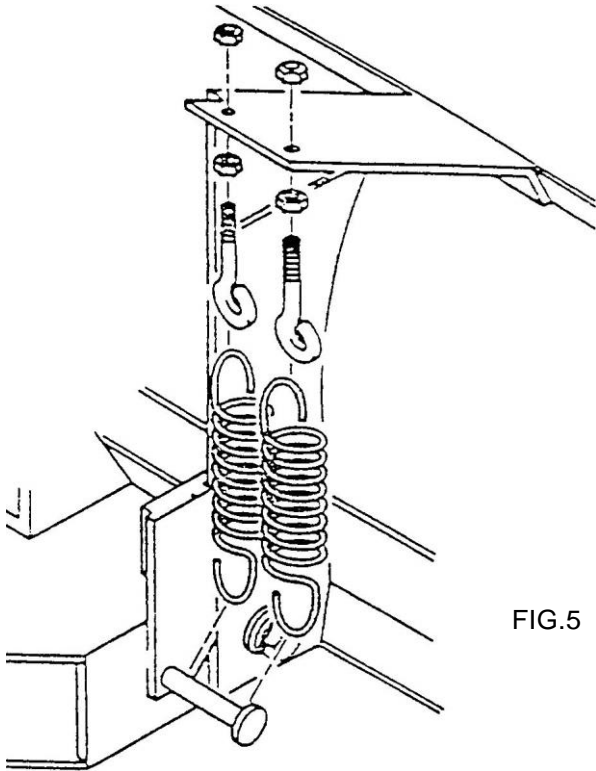

FIG.5
- (1) Hook one end of each spring on the spring retainers located on each side of the pivot assembly.
- (2) Thread a 1/2" nut unto each eyebolt approximately 1" down from the end.
- (3) Hook the eyebolts to the other end of the springs. Hold the blade in the upright position against the stops and insert one eyebolt through the hole in the spring retainer at the top of the blade. Secure the eyebolt to the spring retainer with, a 1/2" nut. Attach the other springs to the retainer in the same manner. See FIG. 5.